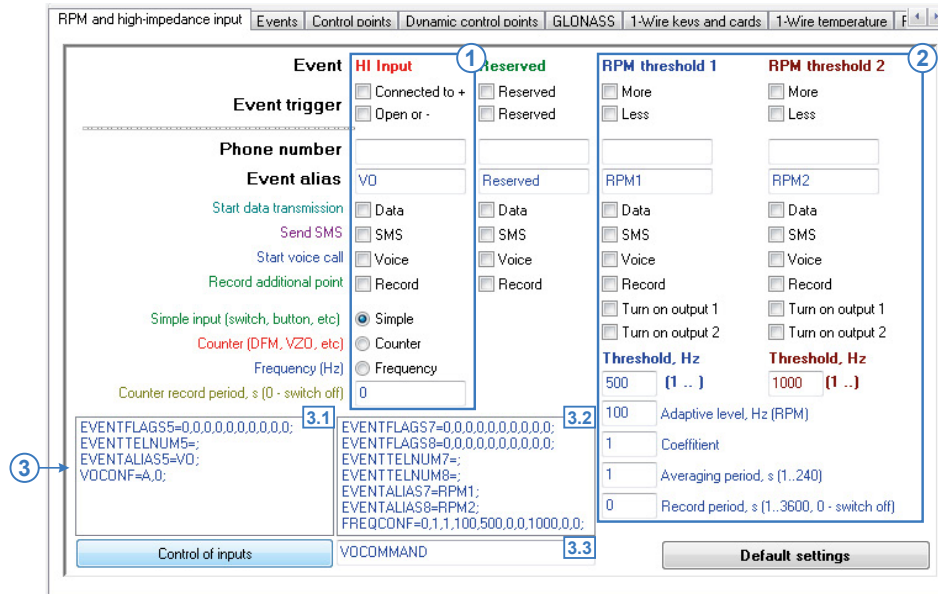

Fig.28. RPM and high-impedance input.
1. High-impedance input settings. For proper operation of high-impedance input, you need to set following options for the "HI input" event on the tab (Fig.28, i.1):
- **Simple (A).** In this mode, when the input's state changes within a second, the time and location data is recorded into the device memory. Simple mode is useful for recording the time of different sensors' activation and for monitoring the performance of equipment and mechanisms.
- **Counter (B).** This mode is intended to track the input switching states and to count various events. This may include counting of pulses from fuel-flow pulse output sensor, speed sensor, and etc. In the counter mode, the number of pulses from each sensor is stored in memory. The location data is not stored.
- **Frequency (F).** This mode is intended for sensors with frequency outputs. The device is capable of measuring frequencies of 0 – 1,500 Hz.
2. RPM input settings (Fig.28). Up to 2 thresholds of RPM input triggering can be set up in AutoGRAPH device – RPM threshold 1 and RPM threshold 2 (Fig.28).
3. Control commands. This list contains control commands used to configure high-impedance input (Fig.28, i. 3.1) and RPM input of AutoGRAPH controller remotely via data server or by means of SMS (Fig.28, i. 3.2). When you change settings on the tab "RPM and high-impedance input", control commands are filled with the specified settings. Then prepared commands can be sent to AutoGRAPH device from data server or by means of SMS.
In order to copy a command in clipboard, left click the command. This will move the command in the editing line (Fig.28, i. 3.3), where you can change the command values. To copy the command from the editing line in clipboard, use hot keys Ctrl+A and Ctrl+C.